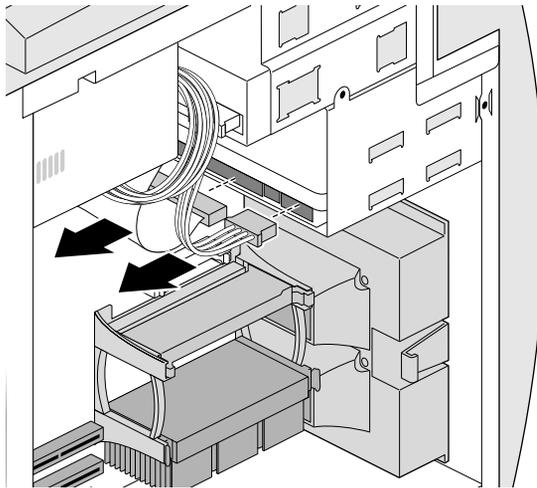

Figure 4-15 Disconnecting Cables from an Internal Hard Drive
4. Detach the cables from the back of the drive (or both drives, if two are installed), as shown in Figure 4-15.